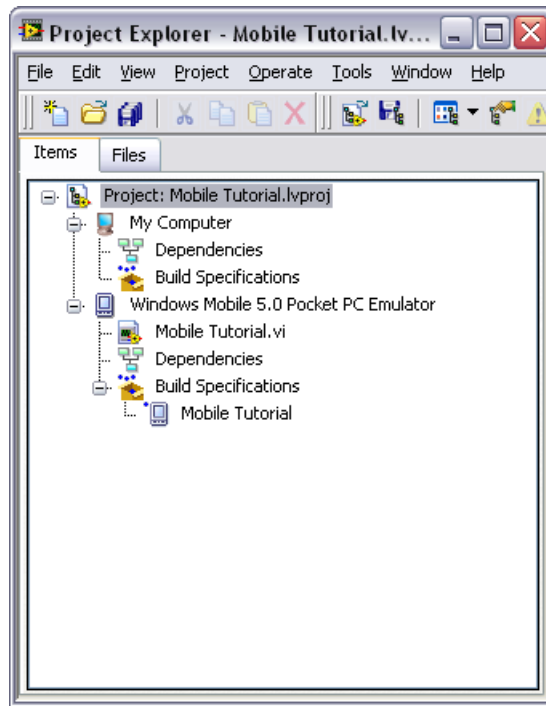

Figure 6. Project Explorer Window
6. Click the **OK** button. The build specification you just created appears in the **Project Explorer** window under the Mobile target, as shown in Figure 6.